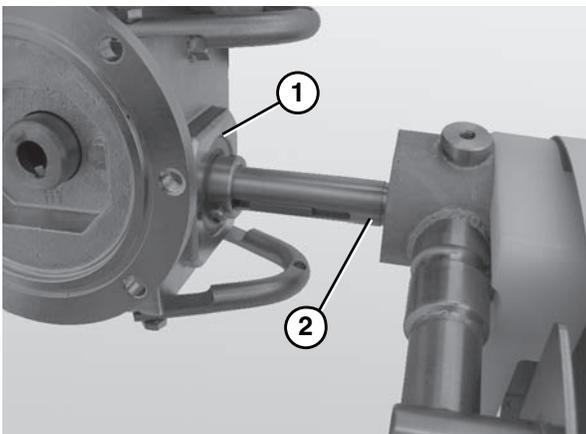

Figure 4
2. Slide the gear reducer (Figure 4, item 1) onto the drive spindle (Figure 4, item 2).